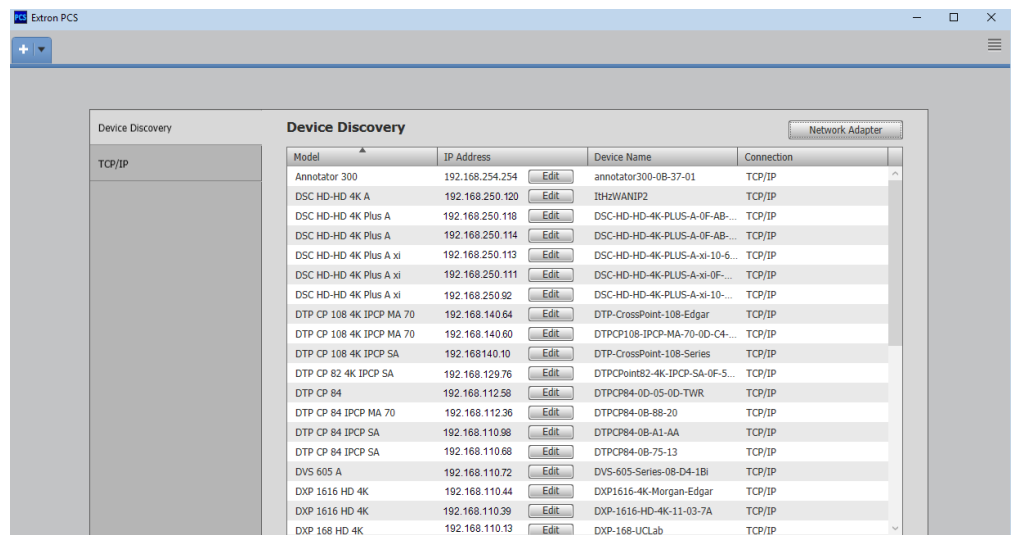

Figure 16. Device Discovery Window
- Click the **X** at the top right of the PCS window (see figure 16 on page 38).